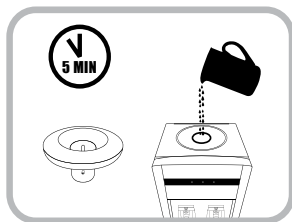

Fig.2
3. Fill water reservoir with tap water full to capacity. Allow the water to settle into the hot and cold water tanks for 5 minutes. (Fig. 2)